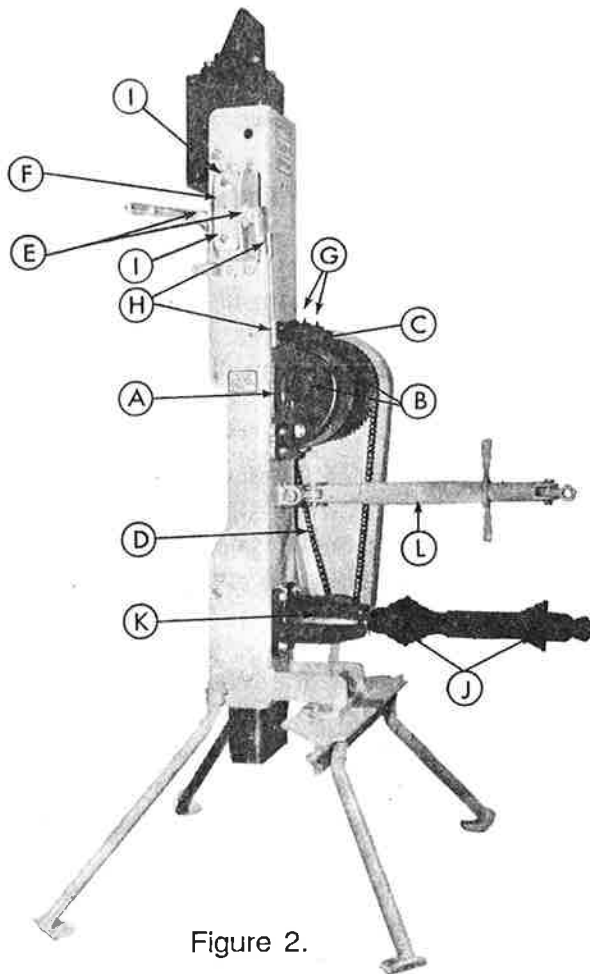

Figure 2.
Lubricate the following grease fittings: Both bearings on control handle shaft (E), Figure 2; brake release plate (F), Figure 2; cradle camshaft bearings (G), Figure 2. Apply 1 or 2 drops of SAE 30 or 40 oil to ball joints (H), Figure 2, on drive control rod and to studs (I), Figure 2, passing through control housing to brake release plate.
Remove drive chain (D), Figure 2, and wash thoroughly in kerosene. Allow to dry and soak for several minutes in SAE 10 or 20 oil. Allow chain to drain and replace.
Lubricate bearings at each end of friction wheel shaft (B), Figure 2. Lubricate friction wheel cradle cam (C), Figure 2. Apply 10 to 15 drops of SAE 30 or 40 oil to inner surface of drive chain (D), Figure 2. DO NOT lubricate drive chain when operating in extremely dusty conditions.
Lubricate both universal joints and universal joint telescoping shaft (J), Figure 2.
Check oil level in driver gearbox (K), Figure 2. Oil level should be even with plug on side of gearbox. Lubricate pitch control group (L), Figure 2.
Remove gearbox (K), Figure 2, from driver guide channel, drain and flush. Refill with Texaco EP 140 or equivalent gear lubricant.
Under ordinary conditions, there are only three parts, the two brake blocks and the friction wheel (A), Figure 2, which will show any appreciable wear and require adjustment.
When the brakes are applied, the brake blocks should hold the drive channel in the center or slightly to the left of the center of the guide channel (as viewed by operator). This is controlled by adding or removing shims from under the stationary brake block. The Driver is shipped with one thick and two thin shims at both the top and bottom of the stationary brake block. These shims may be used in any combination as long as the total thickness at the top and bottom is equal. When adjustment of the stationary brake block has been changed, it may be necessary to change the adjustment of the brake release plate (F), Figure 2. Adjustment of this plate is controlled by the lock nuts at the top and bottom. They should be adjusted so that the control handle has 1 to 2 inches free movement at its outer end.
When the control handle is in the "HOLD" position and the edges of the drive channel are out against the guide bearings, there should be from 1/16 to 1/8 inch of space between the friction wheel (A), Figure 2, and the back of the drive channel. A piece of number 14 gage wire may be used as a feeler gage and should just slide between the friction wheel and the drive channel. This spacing can be obtained by removing or adding shims alternately above and below the friction wheel.
If for some reason the Driver is ever found to be completely out of adjustment, the following procedure can be used to put it in operating condition again. Remove the transport pin and drop the drive channel onto a wooden block placed on the ground. Disconnect ball joint at lower end of the control rod from lever on the cradle cam shaft. Adjust the brakes and friction wheel (A), Figure 2, setting as outlined above. Before checking the friction wheel spacing, be sure that the cradle cam is released and the friction wheel is out as far from the drive channel as the cradle cam will allow. Adjust the length of the control rod until the lower ball joint stud slips freely into the hole in the cradle camshaft lever. Secure with the nut and lockwasher and test operation of the Driver. If it seems desirable to have more control handle movement between the point where the brakes release and the friction wheel engages, this may be obtained by lengthening the control rod slightly from the setting obtained above. Or, if slightly less control handle movement is desired, this may be obtained by shortening the control rod.
To adjust the drive chain (D), Figure 2, lower the control handle as far as it will go and loosen nuts securing the gearbox (K), Figure 2, to the guide channel. Raise or lower the gearbox until there is little or no slack in the drive chain. DO NOT get the drive chain too tight. Tighten bolts securing gearbox to the guide channel and check the chain again. Return the control handle to the "HOLD" position.